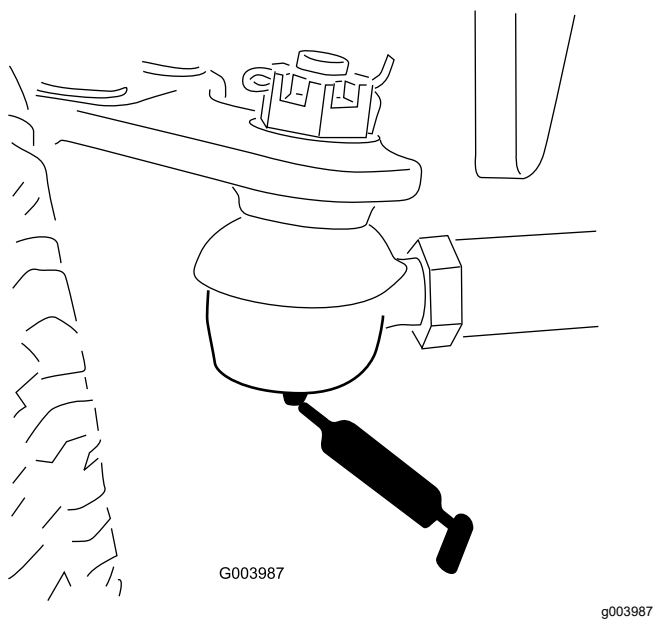

Figure 68
- Rear axle tie rod (2)—Figure 68